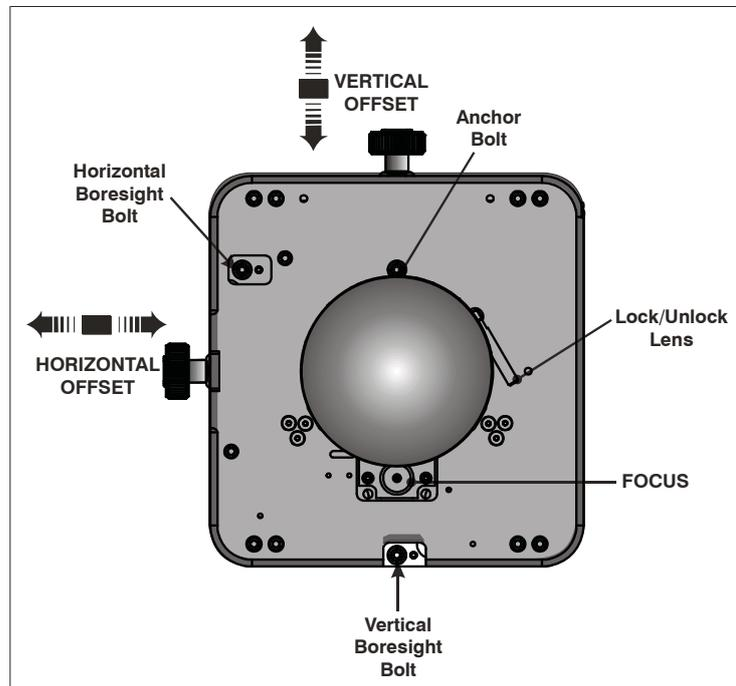

Figure 2-20 Standard Lens Mount
- Using the framing test pattern, adjust horizontal and vertical **Offset** as necessary to display a square image on the screen with minimal projector aiming error. (**Figure 2-20**) **NOTES:** **1)** For best optical performance, make sure to minimize keystone error by using offset more than aiming to center the image in off axis installations. **2)** Avoid extreme tilts or offsets. Corner vignettes on a white test pattern indicates extreme offset that should be avoided using mechanical alignment.